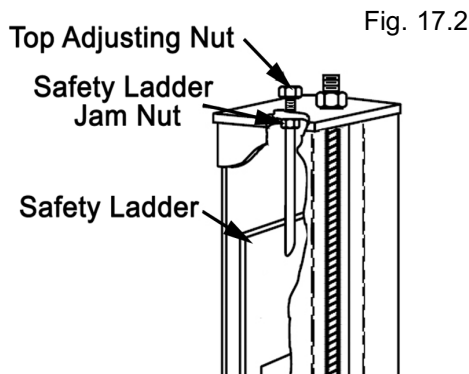

Fig. 17.2
10. To complete the leveling procedures, lock each safety ladder jam nut tightly against bottom of column top plate. (See Fig. 17.2.)